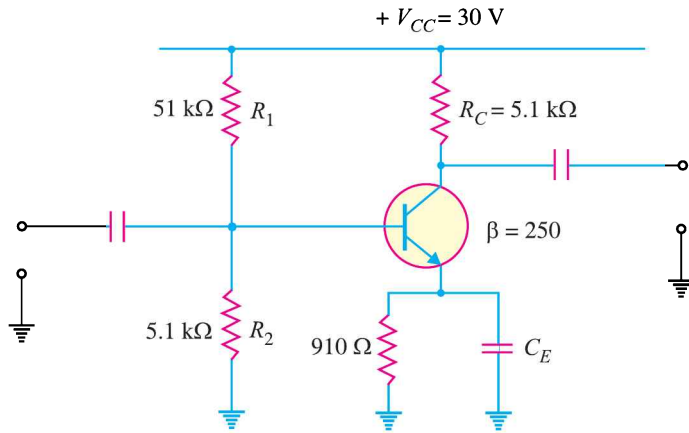

Fig. 10.47
- Determine the voltage gain for the amplifier circuit shown in Fig. 10.47.
10. What is the input impedance of the amplifier circuit shown in Fig. 10.47 ? [1.75 kΩ]